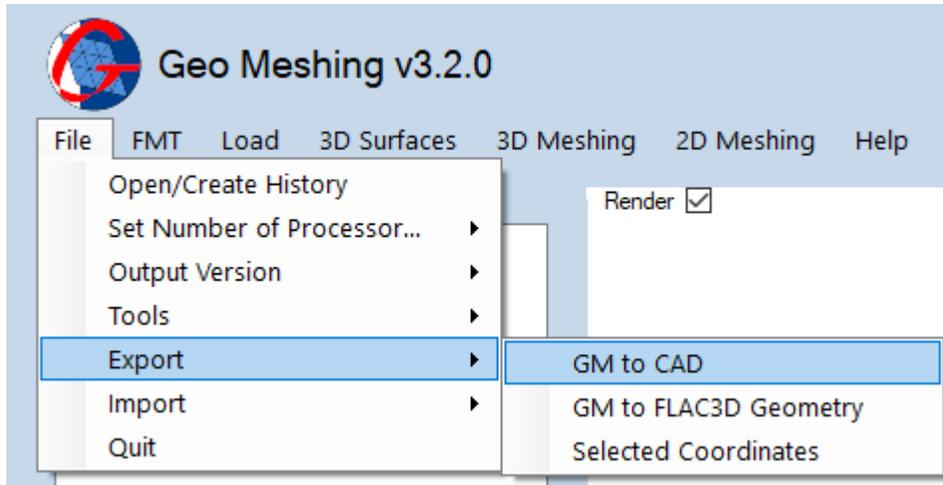

Figure 13: File Menu – Export.
- **File Menu, Export:** This option (shown in Figure 13) has a submenu with three options; *GM to CAD Script*, *GM to FLAC3D® Geometry* and *Selected Coordinates*.